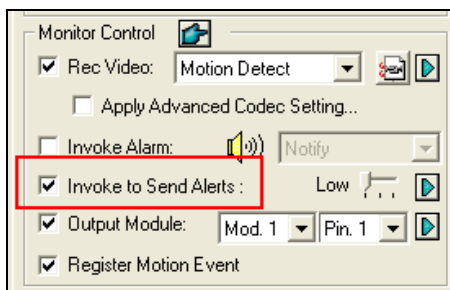

Figure 1-67
4. To send e-mail alerts when motion is detected, click the **Camera Record Setting** tab on the System Configure dialog box, select **Invoke to Send Alerts**. You can select specific cameras for this application or click the Finger button to apply the setting to all the cameras. See Figure 1-67.